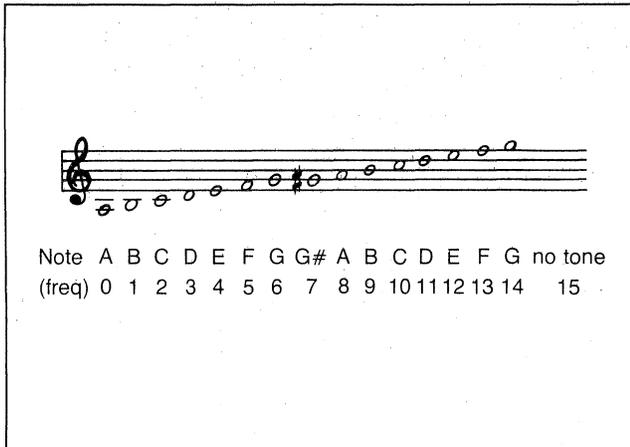

Figure 4-3. Programmable Bell Tones
**<freq>** is a digit in the range 0-15 that specifies the desired tone frequency (pitch). 0 is the lowest tone and is roughly equivalent in pitch to the A below middle C. The values 1-14 each generate a tone that is somewhat higher than that generated by the next lower value. Figure 4-3 shows the approximate musical pitch associated with each frequency value. 15 specifies "no tone" for the specified duration. The default frequency parameter is 0.